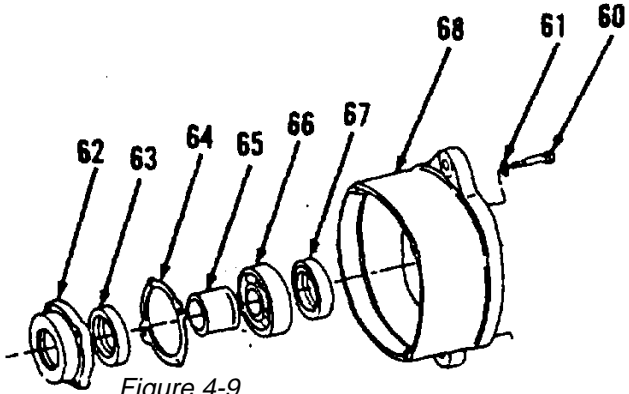

Figure 4-9.
- 32. Inspect race (59). Replace if cracked, broken, distorted, grooved or scored.
- 33. Using suitable puller, remove race (59), if necessary.
- 34. Remove four screws (60), washers (61), retainer (62), seal (63), gasket (64), collar (65), bearing (66) and seal (67) from frame (68, Figure 4-9). Discard seals (63 and 67) and gasket (64). Remove all gasket material from mounting surfaces.